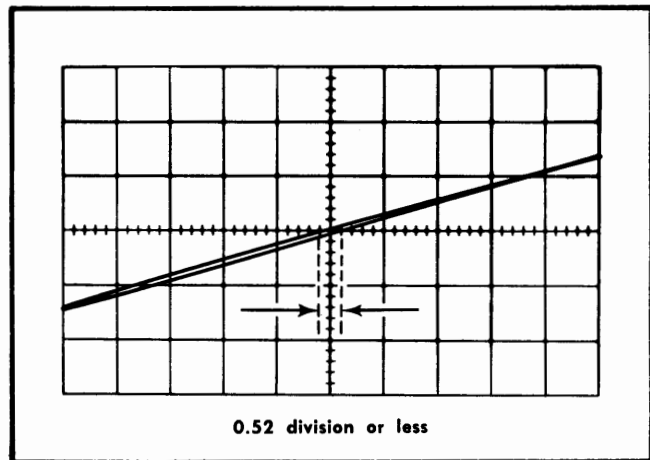

Fig. 5-42. Typical CRT display when checking X-Y phasing.
e. CHECK—CRT display for an opening at the center horizontal line of 0.52 division or less (3° or less phase shift; see Fig. 5-42).